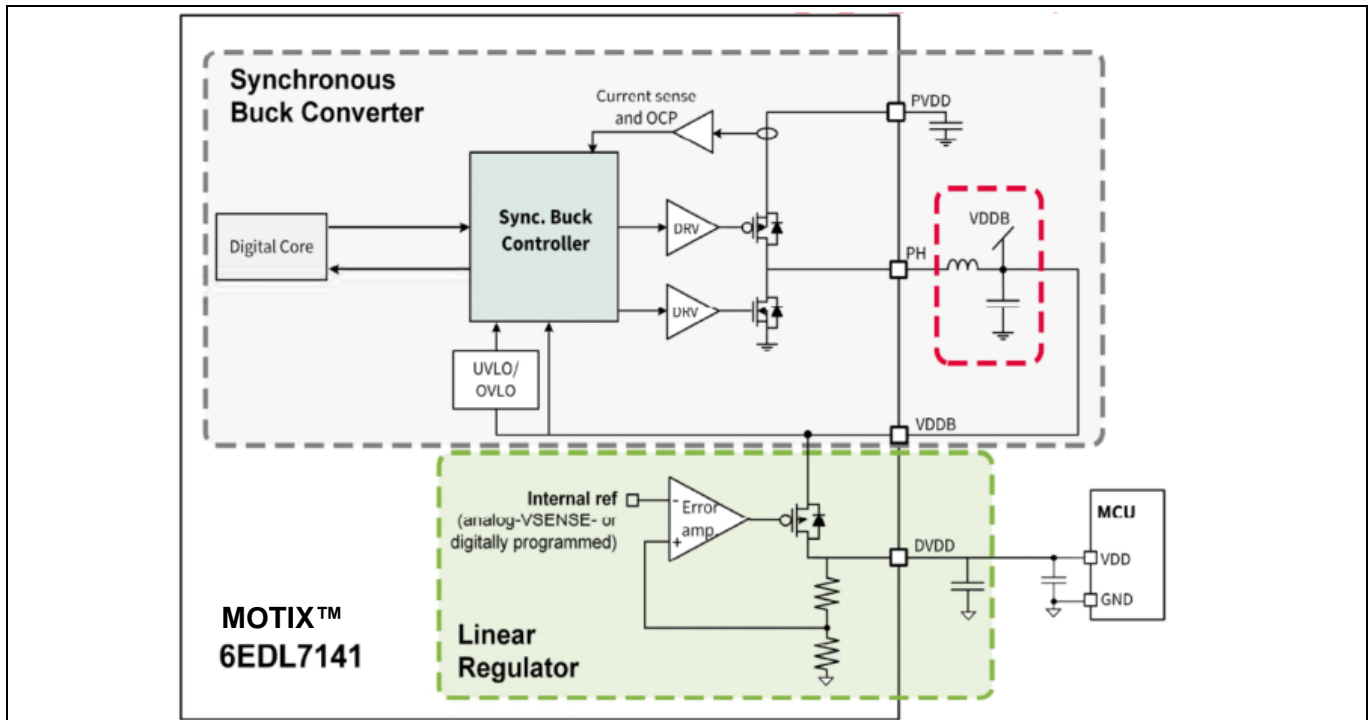

Figure 9 Integrated synchronous buck converter and linear regulator
Two different switching frequencies, 500 kHz (default value) or 1 MHz, can be selected via MOTIX™ BPA Motor Control Workbench. The buck inductor L2 value is 22 µH for 500 kHz switching and 10 µH for 1 MHz. The values for the buck output capacitors C51 and C52 are 22 µF with an additional 0.1 µF ceramic capacitor (C44) added to reduce the high-frequency (HF) noise. See Figure 9 for details of both the synchronous buck converter and linear voltage regulator circuits: